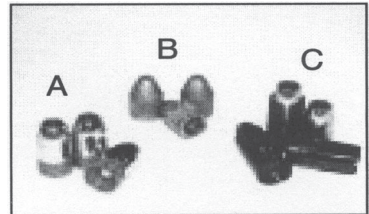

Figure 1-A
PowerBelt™ Bullets are conical projectiles with a plastic base. Like sabots, the PowerBelt™ Bullet's patented snap-on base creates a perfect gas seal, providing consistent pressures and un-surpassed accuracy. But unlike sabots, PowerBelt™ Bullets are easy to load and do not require cleaning after every shot. And they are full caliber sized, so you get the most knock down power possible out of a muzzleloader. PowerBelt™ Bullets are available in .45, .50, and .54 calibers, copper coated or pure lead, with hollow points or AeroTips, and in a variety of grain weights. They are the #1 selling muzzleloading bullet on the market and the only bullet recommend for CVA in-line rifles. ( Figure 1-A)
2. CONICAL BULLETS—such as the CVA Buckslayer Bullet and others of this type provide acceptable accuracy in all CVA firearms as well as increased knock down power desired by hunters. These projectiles are best suited for use in medium to fast twist rifling barrels which stabilize the bullet more rapidly. (Figure 1-B)
3. SABOTED BULLETS—Modern sabots from various manufacturers have been tested and provide acceptable accuracy in CVA firearms when complying with the sabot manufacturer's recommendations for usage. Caution: Do not use a sabot bullet weighing more than 300 grains. (Figure 1-C)